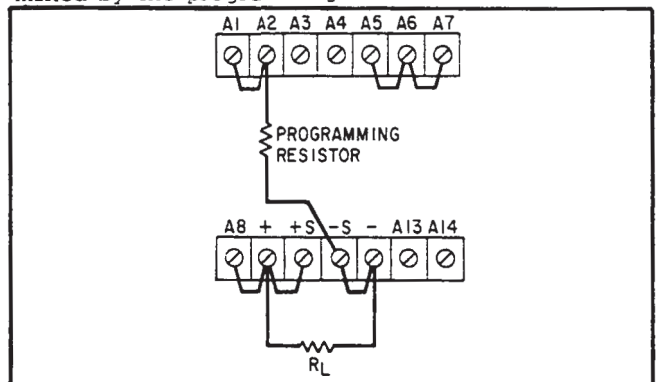

Figure 3-3. Remote Resistance Programming (Constant Voltage)
**3-25 Resistance Programming (Figure 3-3).** In this mode, the output voltage will vary at a rate determined by the programming coefficient — 2000 ohms
3-40 Although the strapping patterns shown in Figure 3-3 through 3-6 employ local sensing, note that it is possible to operate a power supply simultaneously in the remote sensing and constant voltage/constant current remote programming modes.